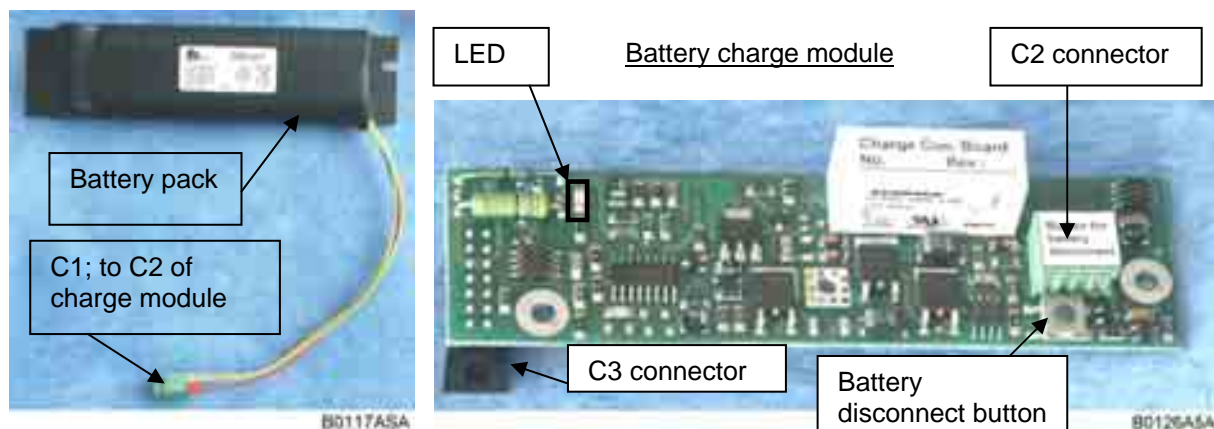

figure 5-17 Battery backup module, exemplary
- Before removing the battery charge module and battery, disconnect the battery cable from the battery charge module (see also *figure 5-17 Battery backup*).